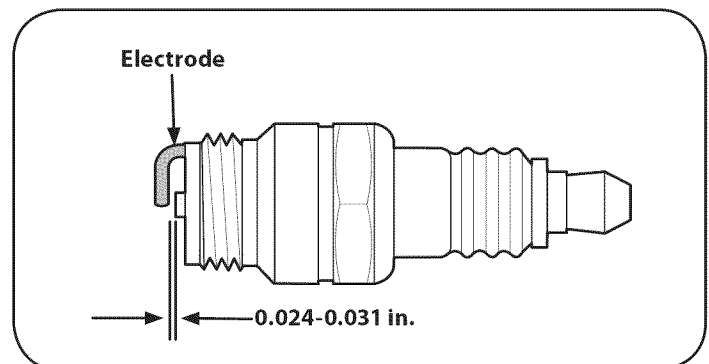

Figure 14
7. Remove and inspect the spark plug. Check gap to make sure it is set at .030". See Figure 14.